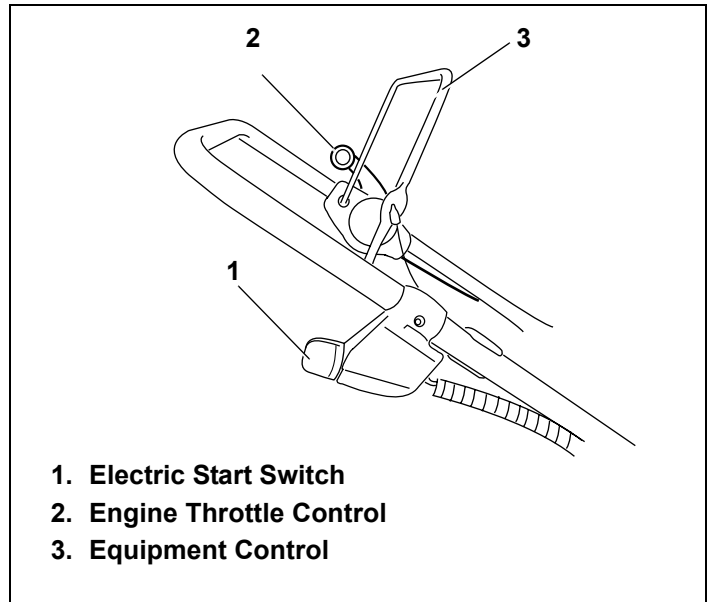

Figure 10. Typical Engine Controls
2. Move engine throttle control to "FAST" position, if present (see equipment manufacturer's instructions). See Figures 10 and 11.
4. Operate equipment control to release engine brake or clutch, if present (see equipment manufacturer's instructions). See Figure 10.